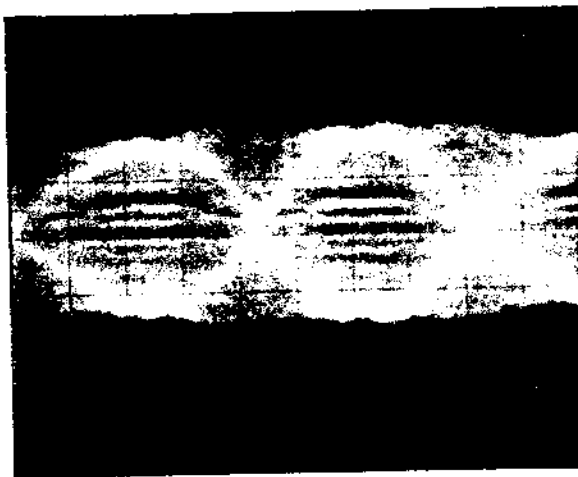

Figure 6-30. Radial Alignment, Head Aligned
- (2) Set the exerciser to position heads as follows.
- (3) Select head 0.
- (4) Observe the waveform at TP19 and compare it to the waveform shown in Figure 6-30.
- (5) Select head 1 and repeat Step (4).